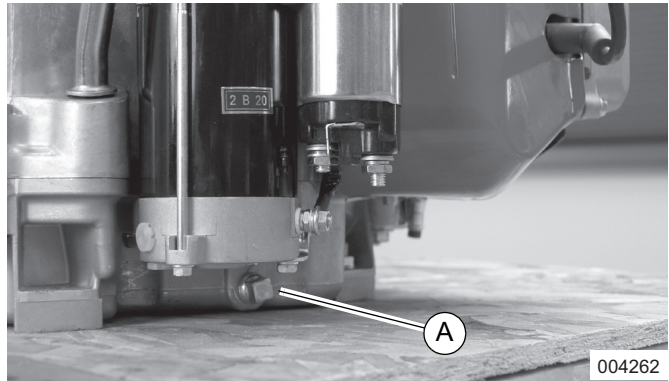

Figure 9-4. Oil Drain Plug
1. See Figure 9-4. Clean area around oil drain plug (A), remove plug, and drain oil completely into a suitable container.